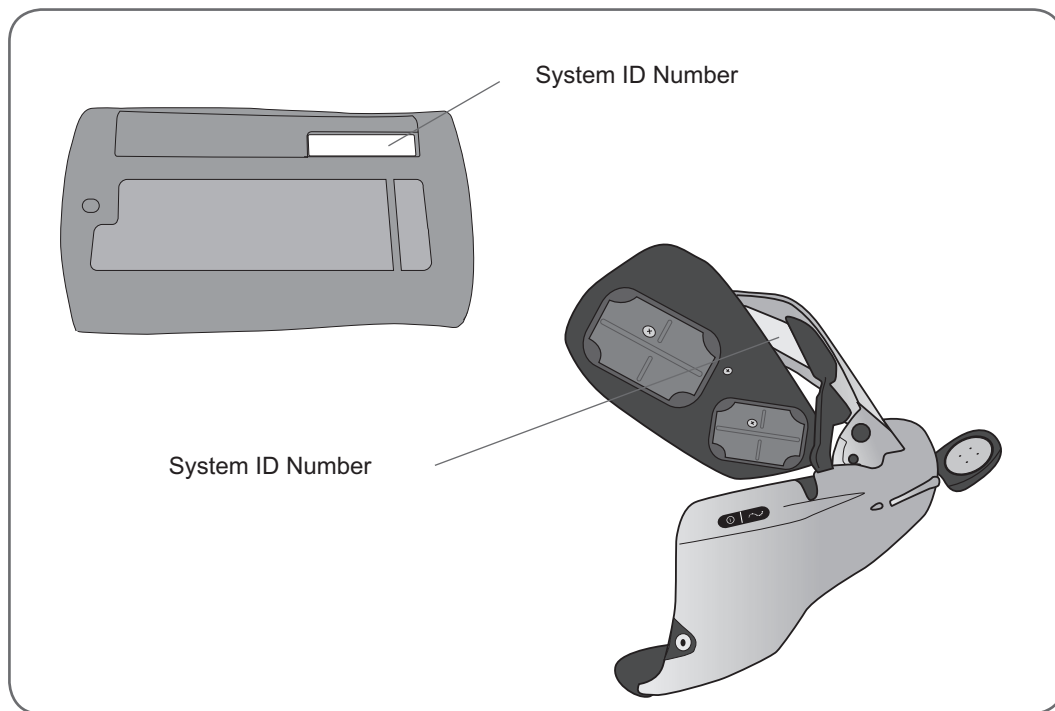

Figure 12-2: Location of the System ID Numbers.
4. Locate the System ID Number (for example, A334) on the existing system component. The System ID Number is on the back of the H200 Wireless Control Unit and under the extensor wing of the H200 Wireless Orthosis. See Figure 12-2.